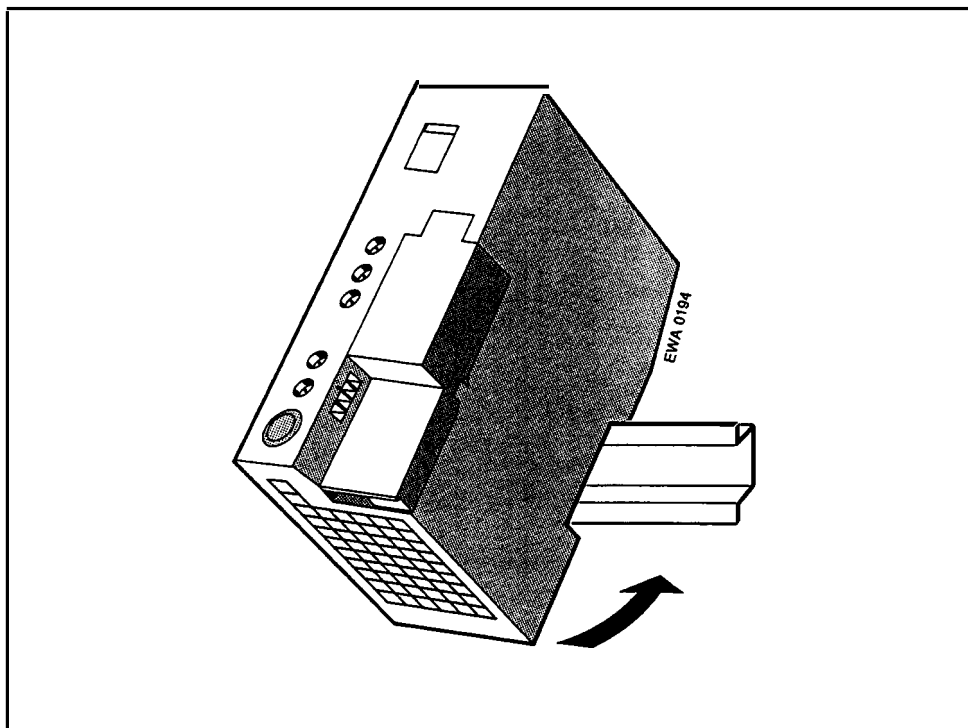

Figure 3-1 Mounting the **PS 931** Power Supply Module
- Swing it down in the direction of the arrow (+ Figure 3-1).
- Swing it down in the direction of the arrow (Figure 3-1).